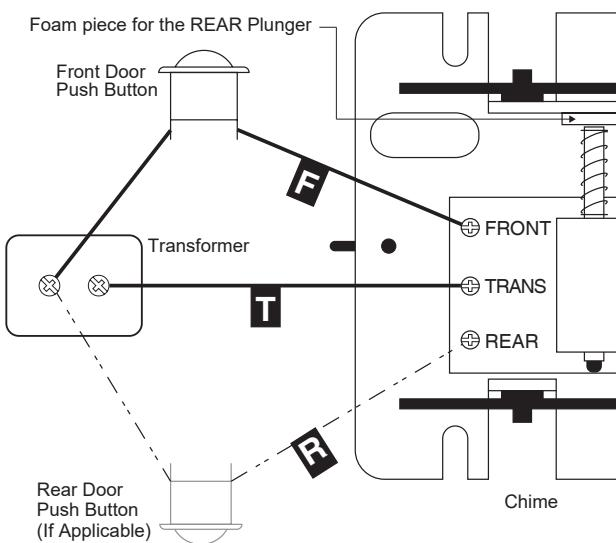

Figure 3 - Chime System Wiring Diagram
- DO NOT remove the foam piece that is above the plunger that makes the sound for the REAR or side door (see figure 3).
1. Remove the doorbell button and briefly touch the wires. If the doorbell rings, then the button needs to be replaced/looked at. The button could be stuck or there is a short in the wiring. If the push button(s) are removed and the buzzing continues, the wiring will likely need to be replaced. It is also possible that the wrong wires are connected to the chime (see figure 3 for the wiring diagram).